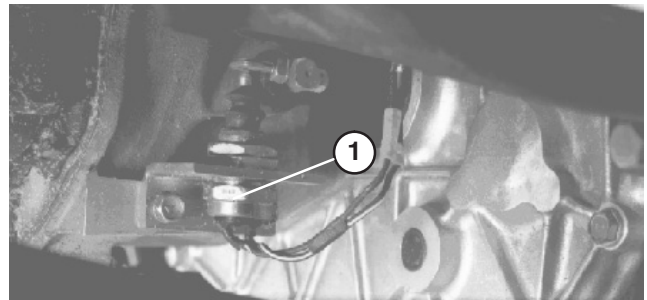

Figure 46
7. Recheck clutch safety switch adjustment (Fig. 46). Engine must not crank unless clutch pedal is $1.25'' \pm .12''$ from floor. If an adjustment is required, loosen switch jam nuts and adjust up or down.